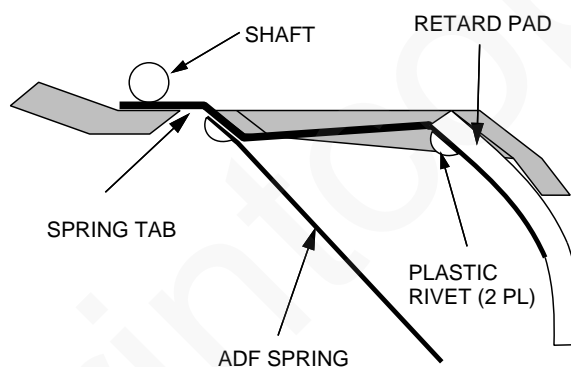

Figure 1. Retard pad
3. Remove the two plastic rivets retaining the retard pad. (figure 1).
1. Reinstall the retard pad and spring with the spring tab located under the ADF spring and under the shaft (figure 1).